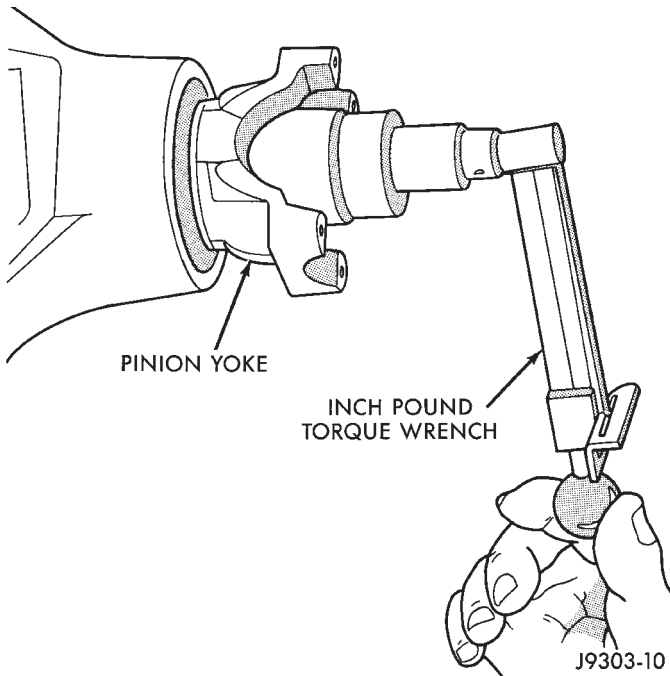

Fig. 10 Check Pinion Rotation Torque
(5) Rotate the pinion shaft using a (in. lbs.) torque wrench. Rotating torque should be equal to the reading recorded during removal plus an additional 0.56 N·m (5 in. lbs.) (Fig. 10).